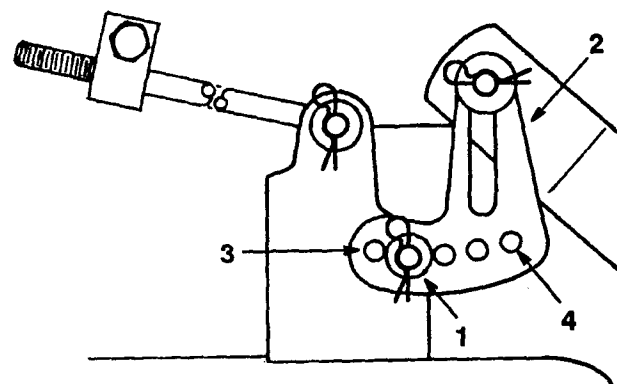

Figure 49
5. Remove the hair pin cotter and washer from the leveling bracket (Fig. 49). To level the blade(s), reposition the leveling bracket in a different hole and install the washer and hair pin cotter. (Fig. 49). A front hole lowers the blade height and a rear hole raises its height. Repeat this procedure on the opposite side.